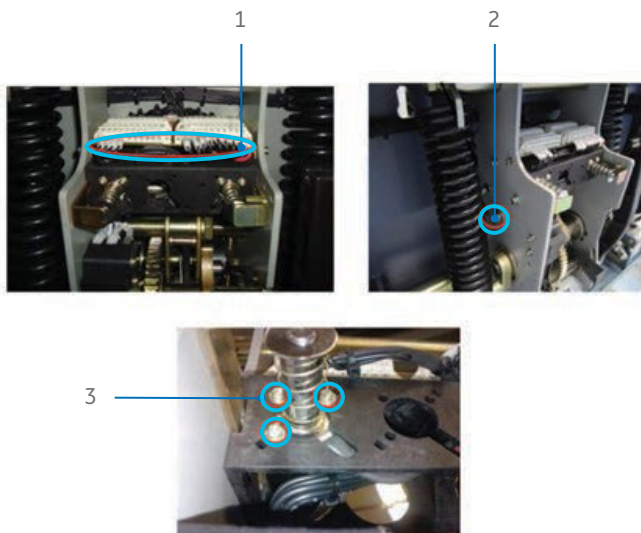

Figure 27: Removal and Replacement of Coils
As shown in Figure 27, disconnect the secondary wires (1) of close & trip coils and unscrew the bolts at both sides (2). Take out the support bracket of the trip & close coils and remove screws (3) for removing the coils.